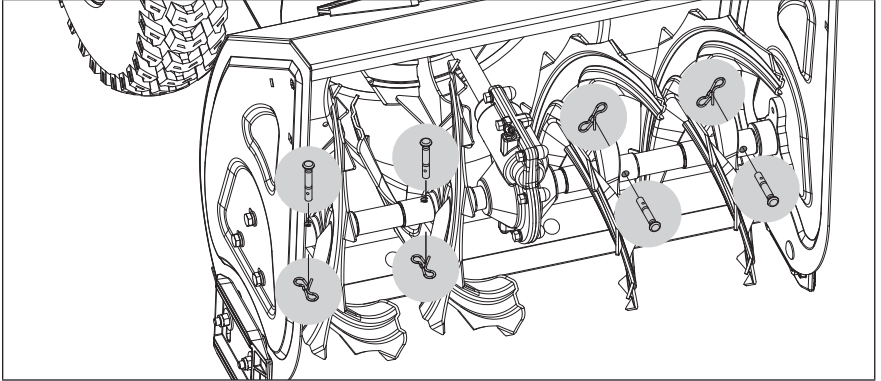

Figure 35
1. The augers are secured to the spiral shaft with shear pins and clips. If the auger should strike a foreign object or ice jam, the snowblower is designed so that the pins shear. (Fig. 35)